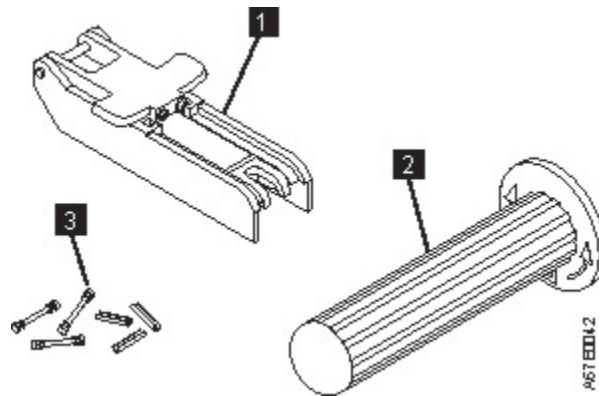

Figure 105. Leader pin reattachment kit
- **Leader pin attach tool** (See **1** in Figure 105 on page 232). A plastic brace that holds the cartridge door open.
- **Cartridge manual rewind tool** (See **2** in Figure 105 on page 232). A device that fits into the cartridge's hub and enables you to wind the tape into and out of the cartridge.
- **Pin supplies** (See **3** in Figure 105 on page 232). Leader pins and C-clips.